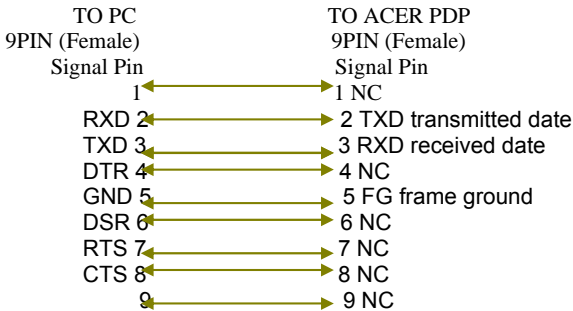

Figure-1
- 1、 Prepare 1 piece of RS232 cable (The Pin connection see the Figure-1, If difference, please re-connect the cable) and 1 set of PC.